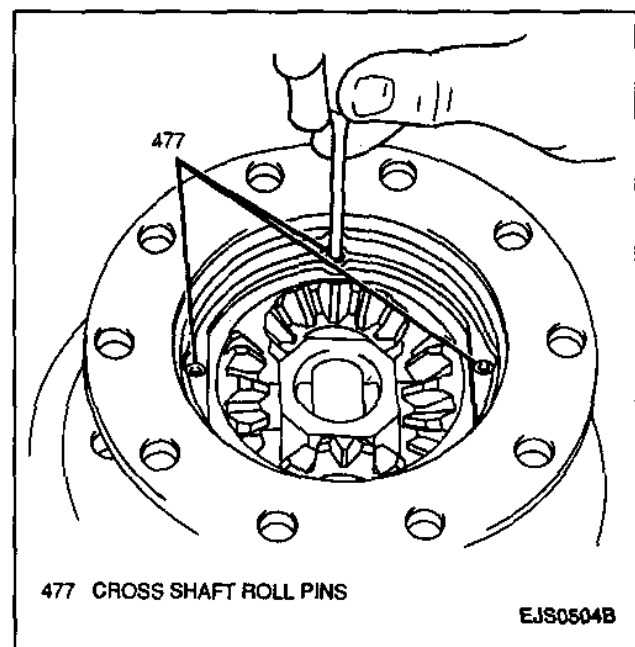

Figure 50—Removing Roll Pins From Differential Case
21. Three roll pins from right differential case using a hammer and standard drift punch and disassemble side gears and washers, differential pinion gears and washers, cross shafts, and pinion cross shaft joint (Figure 50).